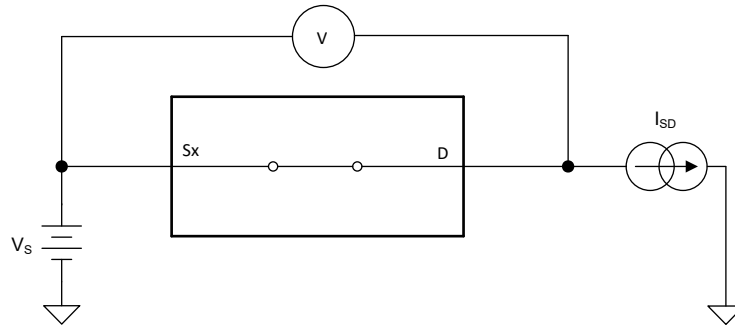

Figure 7-1. On-Resistance Measurement Setup
The on-resistance of a device is the ohmic resistance between the source (Sx) and drain (D) pins of the device. The on-resistance varies with input voltage and supply voltage. The symbol  $R_{ON}$  is used to denote on-resistance. The measurement setup used to measure  $R_{ON}$  is shown below. Voltage (V) and current ( $I_{SD}$ ) are measured using this setup, and  $R_{ON}$  is computed as shown in Figure 7-1 with  $R_{ON} = V / I_{SD}$ :